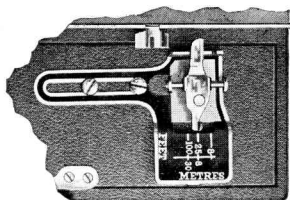

FIG. 2
3. At the front of camera bed and on the side opposite finder, you will see a scale with slots marker 8, 25 and 100 feet. Fig. 2. This is for focusing the camera. Before extending bellows set the catch in the slot corresponding to the distance away of the principal object to be photographed.